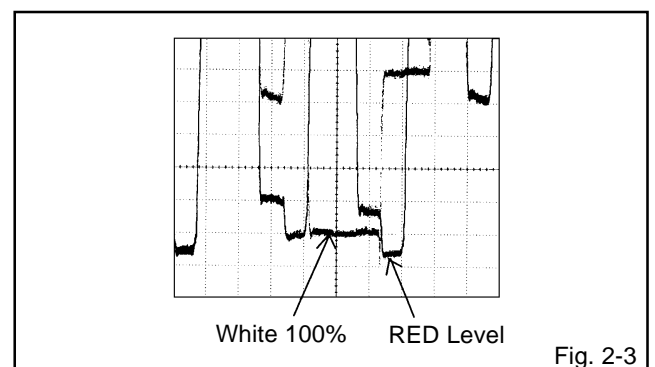

Fig. 2-3
7. Press the VOL. UP/DOWN button on the remote control until the red color level is adjusted to 110% of the white level. (**Refer to Fig. 2-3**)